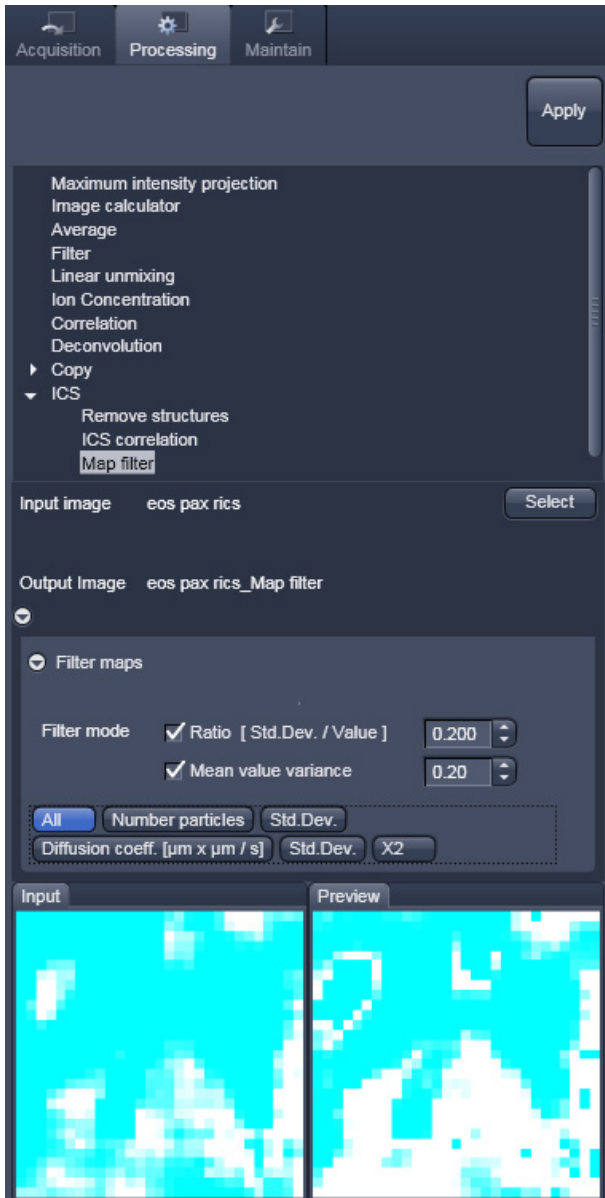

Fig. 125 Map filter menu
- Activate **Map filter** in the **ICS** tool. The **Map filter** menu will appear (Fig. 125).